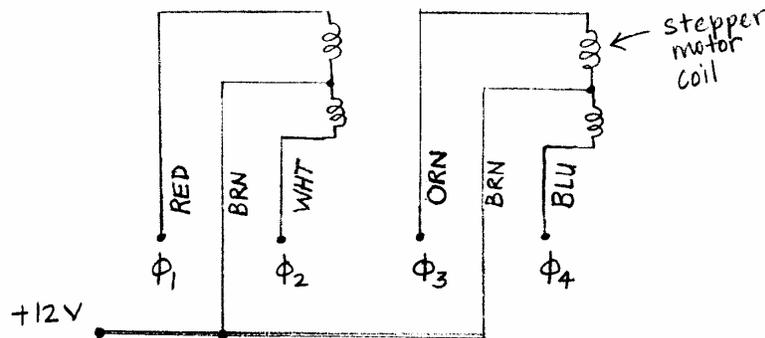
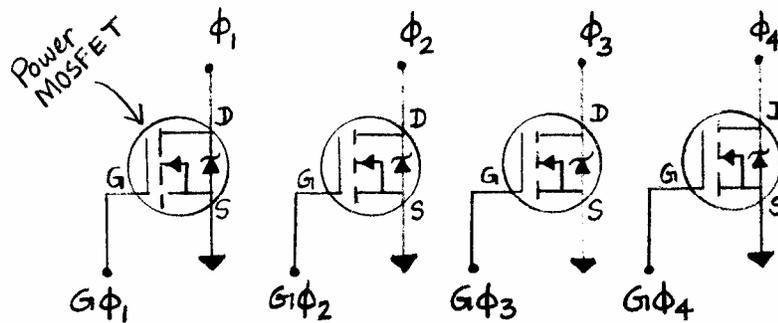
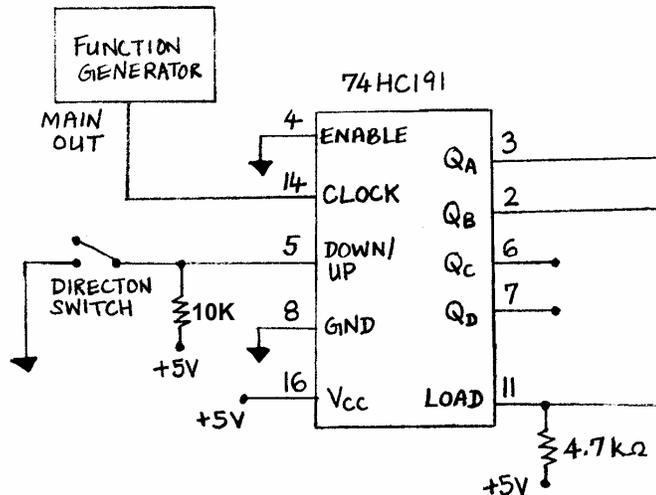

Figure 1: Jameco stepper motor phase and field coil schematic. (Colors refer to lead wires directly attached to motor casing).
Figure 4: Current amplification circuit
Figure 6: Binary up/down counter circuit
The stepper motor you will use in this Laboratory is a four-phase unipolar stepper motor produced by *Jameco Electronics* (Part #166705). The motor requires a DC **Supply Voltage** of 12 V and a **Current** of 140 mA. The motor has a **Step Angle** of 3.8° , **Phase Resistance** of $84\ \Omega$, and **Phase Inductance** of 16 mH. The phase and field coil schematic for this stepper motor is shown in Figure 1.
3. Build and connect the circuits shown in Figure 1 and Figure 4. Your **gate phase** ($G\phi$) signals will be generated by the corresponding **Digital I/O Channels** on your CB-68LP connector block. As specified by your VI, obtain $G\phi_1$ from DIO4, obtain $G\phi_2$ from DIO5, obtain $G\phi_3$ from DIO6, and obtain $G\phi_4$ from DIO7.
8. Using an electronic breadboard, build and connect the circuits shown in Figures 1, 4, and 6. For the purposes of this Laboratory, the “**direction switch**” shown in Figure 6 will consist of a black wire. You can use this direction switch to make the counter count up or count down.